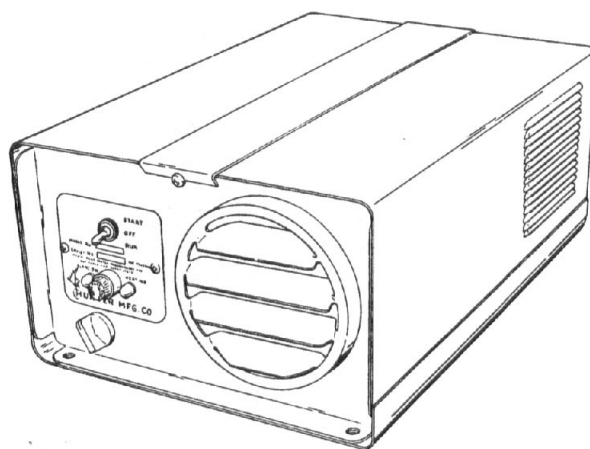
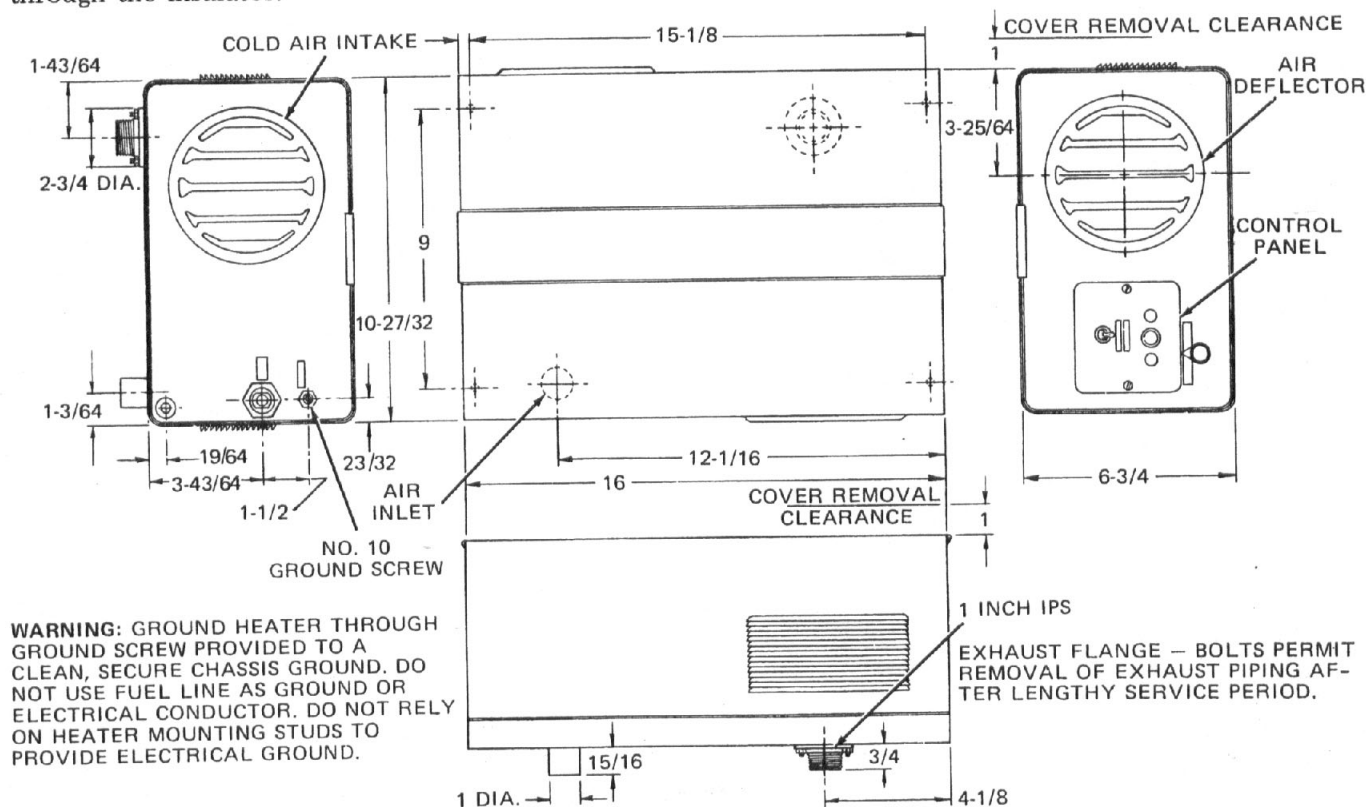

Figure 1. Heater, Model PH-20
Figure 2. Heater Mounting Dimensions
The Model PH-20 Heater (figure 1) is a thermostatically controlled heater device. It is intended primarily to heat truck cabs and medium-sized truck bodies, but its compact design permits use wherever additional heat is required. The heater has a completely isolated combustion system which allows it to be operated within the compartment being heated without emitting dangerous or offensive fumes into the compartment.
1. Mount the heater horizontally, as shown in figure 1. Choose a mounting location which will enable mounting the heater on a level surface, with adequate room around the heater for removal and service. Check that the tilt switch (21, fig. 11) is upright. Refer to figure 2 for mounting dimensions and clearances.